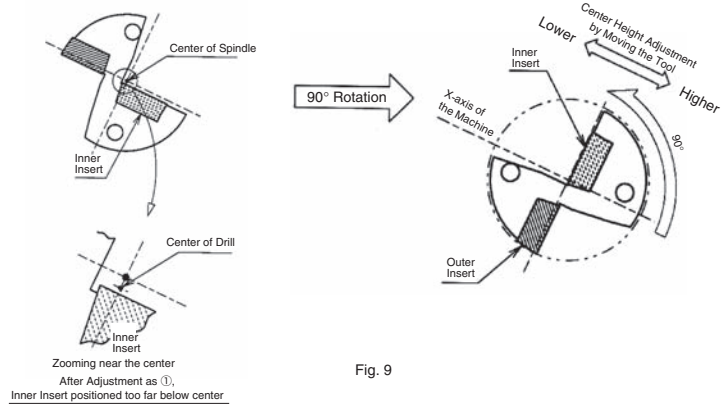

Fig. 9
① Install the drill rotated at the 180°. Most problems will be solved by this method.
② If the core diameter becomes too large after the above adjustment, install the drill rotating 90° counter-clockwise as shown in Fig.9 (outer insert is positioned lower) and adjust the center height by moving the tool in the X-axis direction. (However, this makes it impossible to adjust the cutting diameter.)